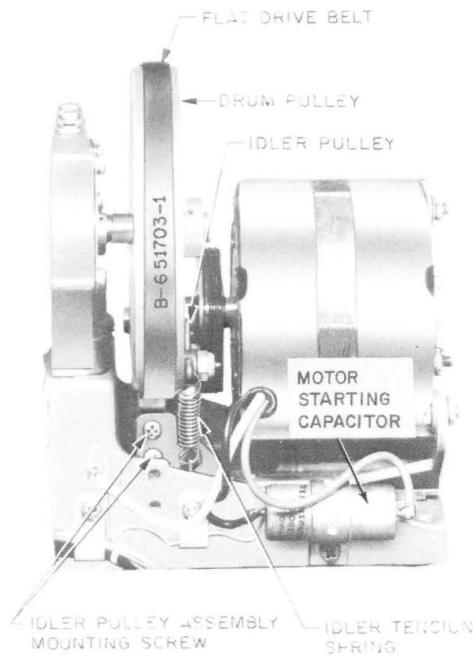

Fig. 15—Idler Pulley Detail (KS-16765, L3, Recorder Equipped With B-650412 Drive Assembly)
- (1) Check the binding of parts by removing the flat belt and ensuring the drum clears all parts and rotates freely. If binding is present, adjust or replace associated parts (Section 034-354-801).
- (2) Check for loose or damaged flat drive belt. If drive belt is loose, damaged, or worn, proceed as covered in paragraph 5.24.
- (3) Check the round drive belts (recorders equipped with B-650412 drive assembly) for requirements in paragraph 4.22.
- (4) Recheck requirements.
- (5) If requirements are not met, replace motor starting capacitor (Fig. 15) (Section 034-354-801).
- (a) If KS-16765, L3, recorder, equipped with B-650412 drive assembly (Fig. 15), is used